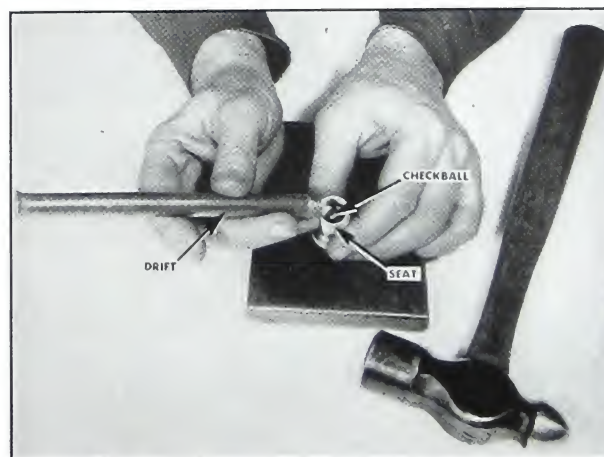

Fig. 5-278. Seating check ball
3. Use a light hammer and a brass drift to reseat the $\frac{13}{32}$ " check ball. **Fig. 5-278.**